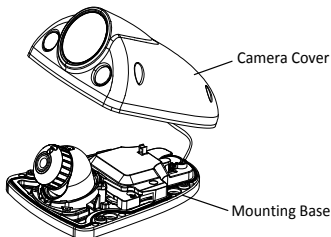

Figure 2-3 Disassemble the Camera
4. Disassemble the camera: Loosen and take off the four screws on the camera cover, and separate the cover from the mounting base. As shown in the Figure 2-3.